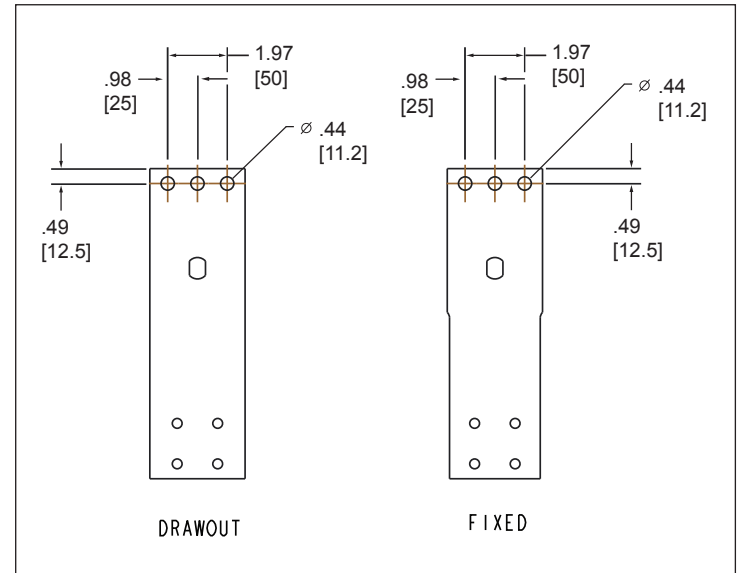

Figure 1a. Dimensions
* - Drawout and fixed adapters differ. See figure 1a,